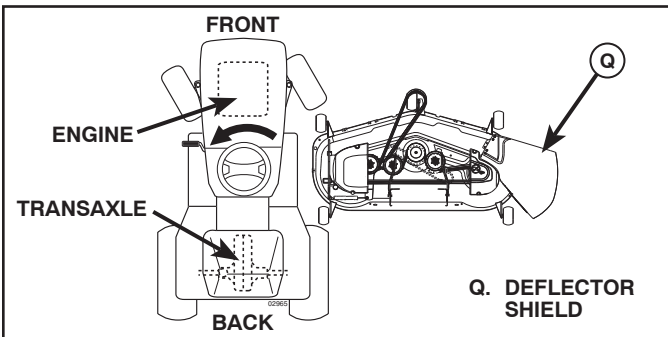

Fig. 24
3. TURN STEERING WHEEL LEFT AND POSITION MOWER (See Fig. 24)
- Turn steering wheel to the left as far as it will go and position mower on right side of tractor with deflector shield (Q) to the right.
9 INSTALL BELT ON ENGINE CLUTCH PULLEY (M) (See Fig. 24 & 32)
- Disengage belt tension rod (K) from locking bracket (L).
- Install belt onto engine clutch pulley (M).